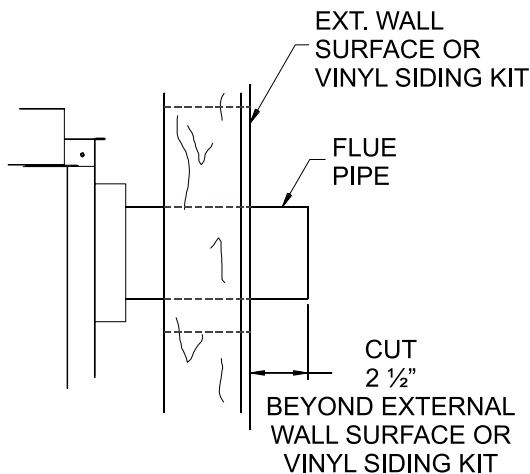

Figure 54
8. Attach the 4" (102 mm) diameter flue outlet tube onto the rigid venting system or directly to fireplace. Ensure the 4" (102 mm) diameter flue outlet tube is placed as far as possible onto the rigid venting system. Mark the 4" (102 mm) diameter flue outlet tube 2 1/2" (64 mm) beyond the vinyl siding kit or wall. **See Figure 54.** Remove the 4" (102 mm) diameter flue outlet tube from rigid venting system. When installing directly to fireplace, tape gasket needs to be used.